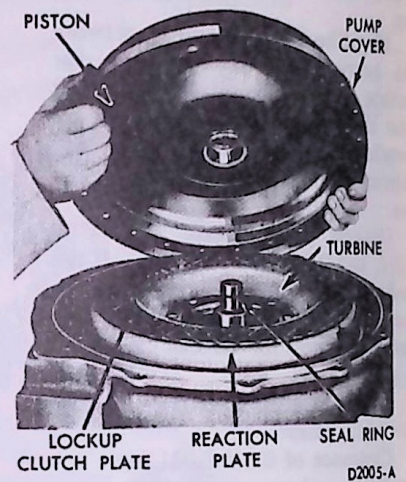

FIG. 66 Converter Pump Cover Installation
58. Install the torque converter turbine on the turbine shaft (Fig. 66).
59. Install the snap ring and hooktype seal ring on the turbine shaft (Fig. 66).
61. Install the reaction plate (Fig. 66). If inked balance marks are found on the reaction plate, converter pump, lockup piston and pump cover, assemble and parts with the marks aligned.